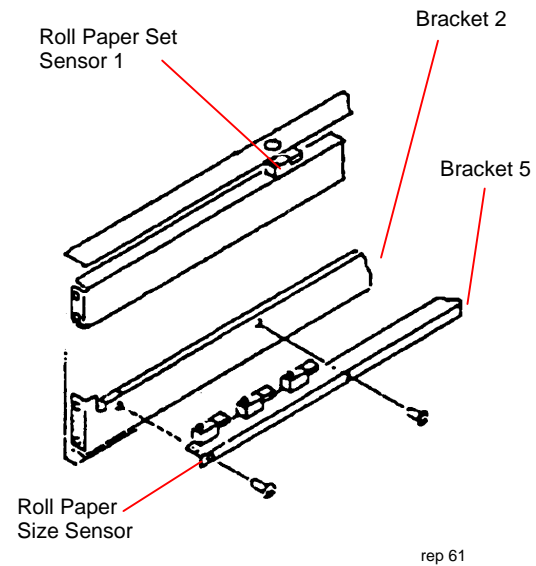

Figure 2. Removing the Sensors
3. (Figure 2): Remove the three screws and Bracket 2.